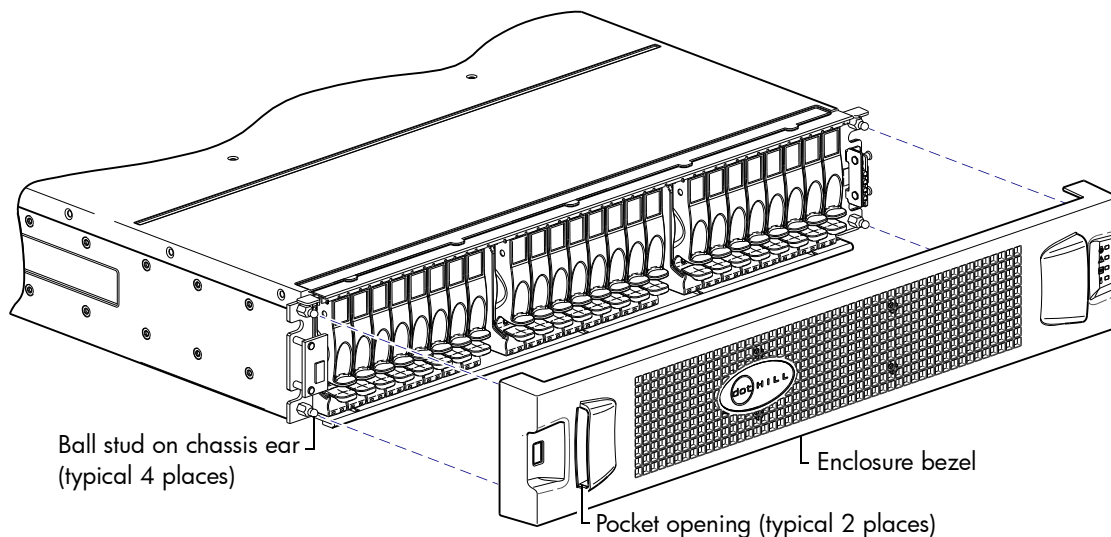

Figure 29 Partial assembly showing bezel alignment with 2U24 chassis
- Bezel alignment for 24-drive enclosure (2U24): Figure 29 on page 72
Orient the enclosure bezel to align its back side with the front face of the enclosure as shown in Figure 29 on page 72 and Figure 30 on page 72. Face the front of the enclosure, and while supporting the base of the bezel, position it such that the mounting sleeves within the integrated ear caps align with the ball studs, and then gently push-fit the bezel onto the ball studs to securely attach the bezel to the front of the enclosure.